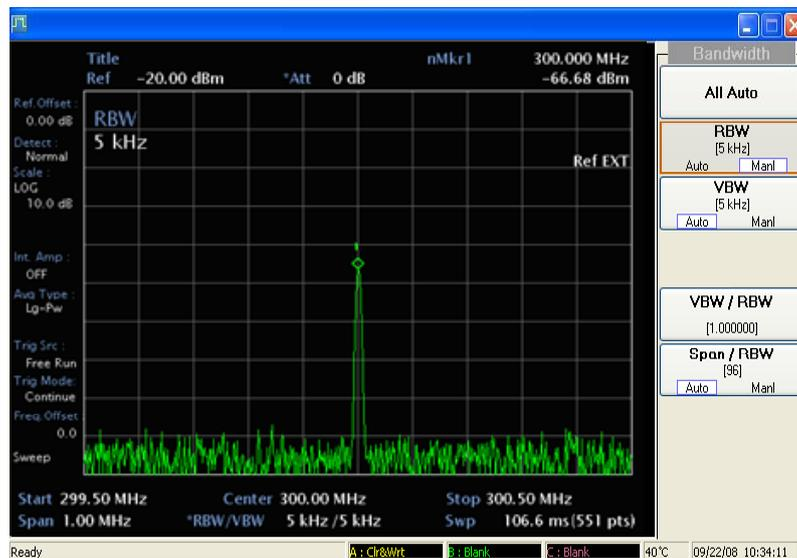

Fig. A-13 Decreasing resolution bandwidth
- 7 Press [BW], [*RBW Manl*], [*RBW*] and the step-down key (\blacktriangledown) to decrease RBW. The low-level signal appears more clearly because the noise level is reduced. See Fig. A-13.